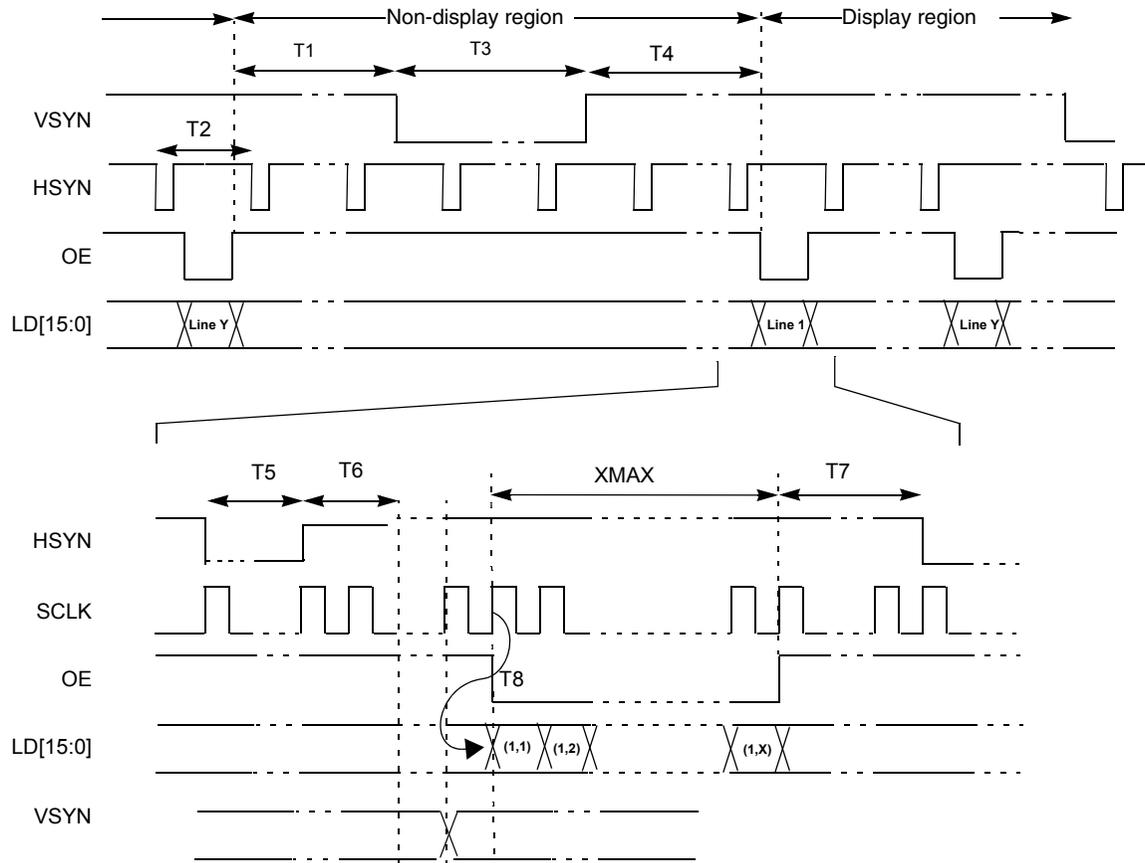

Figure 41. 4/8/16 Bit/Pixel TFT Color Mode Panel Timing Diagram
- VSYN, HSYN and OE can be programmed as active high or active low. In Figure 41 on page 53, all 3 signals are active low.
- SCLK can be programmed to be deactivated during the VSYN pulse or the OE deasserted period. In Figure 41, SCLK is always active.